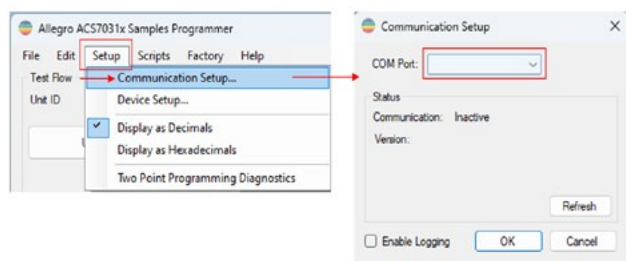
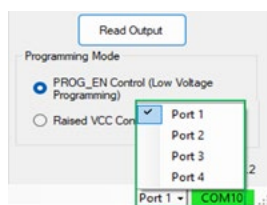
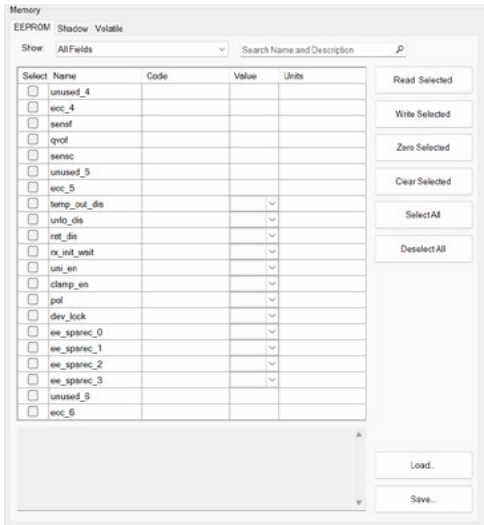

Figure 4: Communication Setup and COM port selection
Figure 5: Port selection becomes available once successful connection to ASEK-21 is established.
Figure 10: GUI memory control panel
1. Navigate into the setup menu and select “Communication Setup”. This opens a new panel where the user selects the COM Port for the ASEK-21. Refer to Figure 4 showing the “Communication Setup” dialogue window. Once selected, the status will show as active, and the ASEK-21 device port select panel will appear next to the green COM port indicator on the GUI (Figure 5). If port select panel does not appear, continue to device setup.
To select which device to communicate with, navigate to the port select panel at the bottom right of the main GUI, shown in Figure 5. Once selected, the typical Read and Write operation of the programmer can be used as shown in Figure 10.